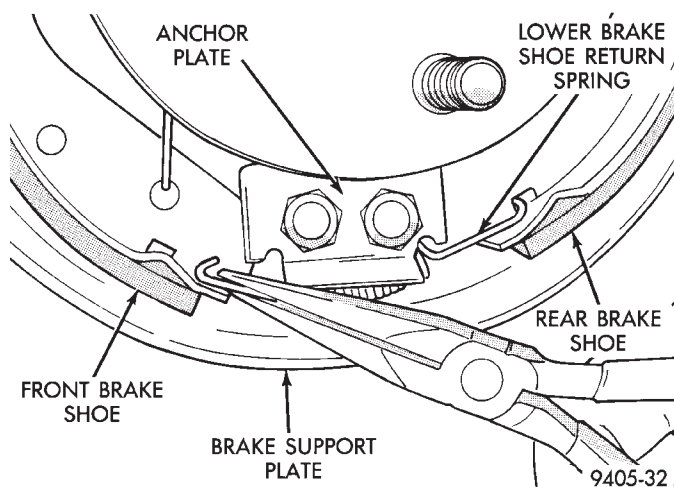

**Fig. 62 Brake Shoe Lower Return Spring**
- (6) Remove the brake shoe lower return spring (Fig. 62).
(8) Install the brake shoe lower return spring (Fig. 62).